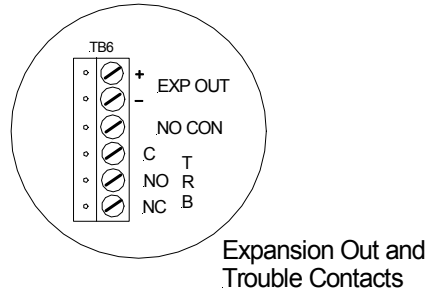

Figure 3-10
The Trouble relay changes state whenever a trouble condition occurs on the Audio Booster circuit board and when the TROUBLE LED D24 lights. As shown in Figure 3-10, connecting to the common terminal (C) and the normally open terminal (NO) would prevent current flow through the relay contacts in the normal operating condition. A trouble condition will cause the relay to switch states allowing current to flow. When there is no power (DC IN or BATTERY) the common and normally open contacts will be shorted.